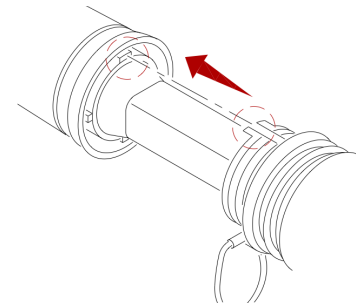

Figure 2-8: opticalCON QUAD Reassembly
- Step 12. Re-assemble opticalCON connector. (**Figure 2-8**)